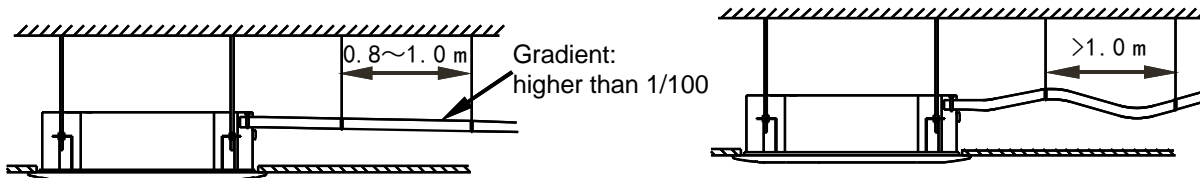

Fig.6-1
- Prevent from water backflow into unit inside during shutdown, the drain pipe shall place down side and drain water to outdoor (drain side), the gradient of the drain pipe should be higher than (1/100), without salient and water remain. (Refer to Fig.6-1 a)
- When connecting drainpipe, don't drag the pipe that would pull the main unit. For this, please arrange bearing points every 0.8 to 1.0 meter to avoid pipe be bended (See Fig.6-1 b).